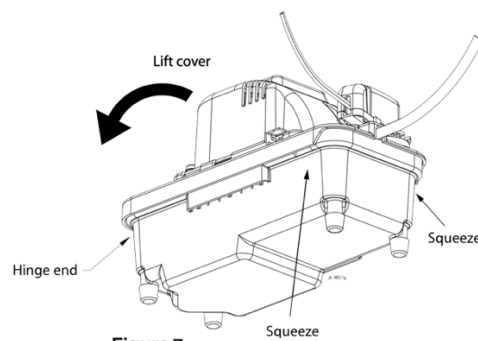

Figure 7
2. To access the tank, float, or intake screen for cleaning, lightly squeeze the tank walls to release the latch (Figure 7), then grab and raise the motor cover. (The motor cover hinges on the opposite end of the tank.)